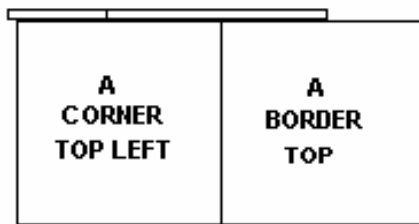

Figure 5
- Next take a transition and lock the "A CORNER TOP LEFT" and the "A BORDER TOP" panels together. Transitions use the same locking method as panels and lock right to left or up and down. Transitions lock two panels together except for corners. **Each corner will have one short and on tapered transition.** (Figure 5).